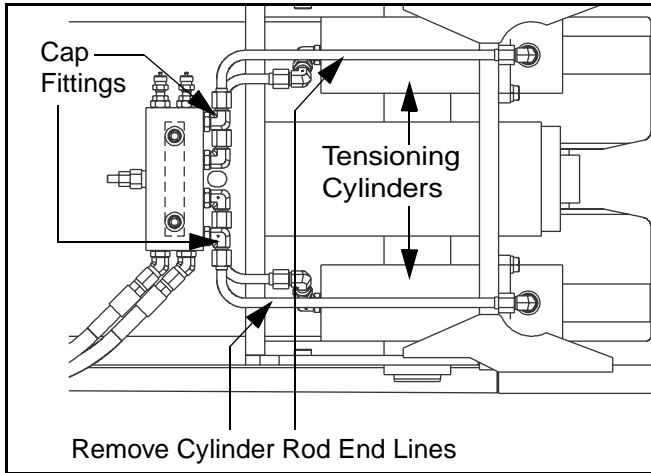

Figure 5 - 27 Track Tensioning Cylinders
- 1) With engine off, remove lines from tension release valve to the rod ends of the cylinders (Figure 5 - 27).
- 1) Install pressure gauge (3000 psi) at test ports marked BTM and ROD on the tension release valve (Figure 5 - 26).